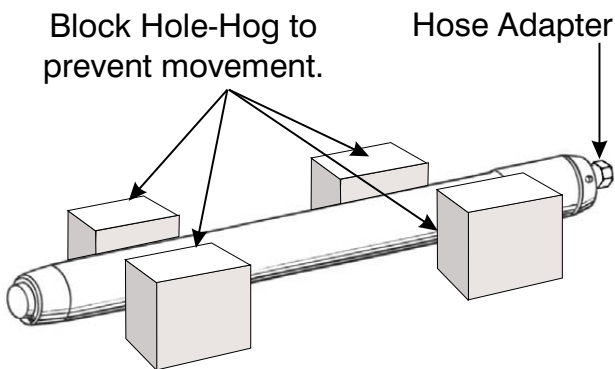

Figure 11-15. Secure Hole-Hog in place.
1. Place the Whip Hose (14) and the Hole-Hog on the work area tarp. Block the Hole-Hog so it will not accidentally roll off the work surface. Leave the Hose Adapter (15) easily accessible as shown in Figure 11-15.